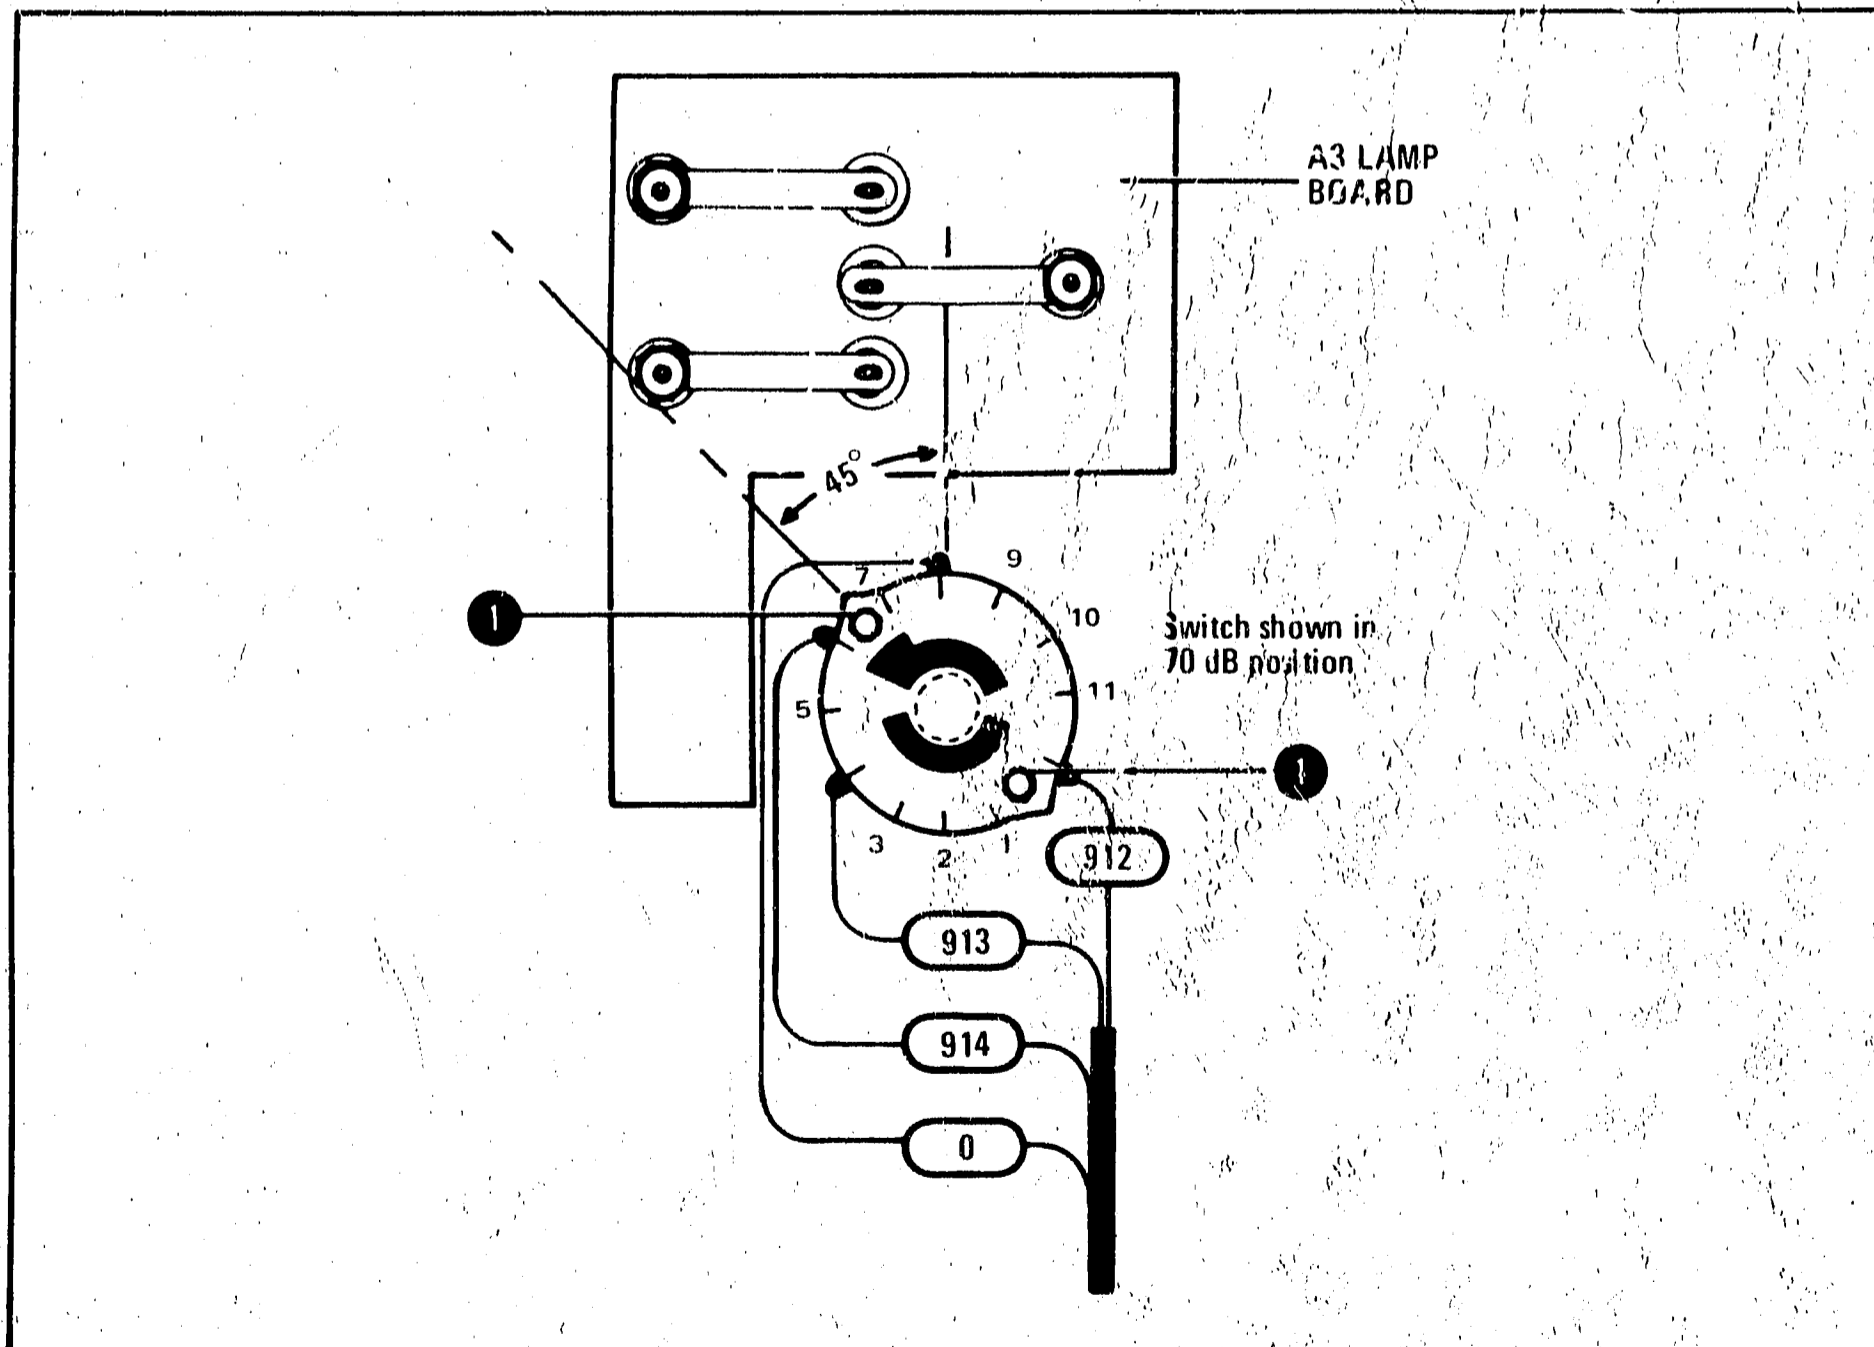

Figure B-10. Attenuation Switch Installation, Option 010
- d. Rotate switch so hex nuts **1** are aligned at about 45° from perpendicular (Figure B-10).